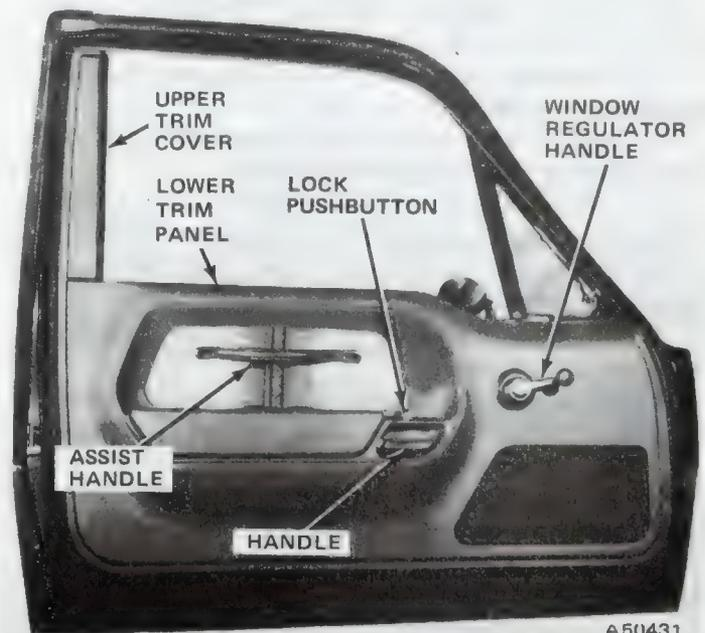

Fig. 3J-1 Door Interior Components
The trim panels (fig. 3J-1) are made of molded colored plastic material to match the interior. Decorative inserts and various trim options including trim panel overlays and mouldings are attached to the panel. The overlays are bonded or stapled to the door trim panel. The trim panel is attached to the door inner panel by screws.
- (1) Remove window regulator handle (fig. 3J-1).
- (2) Remove remote control handle using Torx Bit Tool J-25359-02.
- (3) Push lock pushbutton down into locked position and remove pushbutton.
- (4) Remove remote control mirror escutcheon, if equipped.